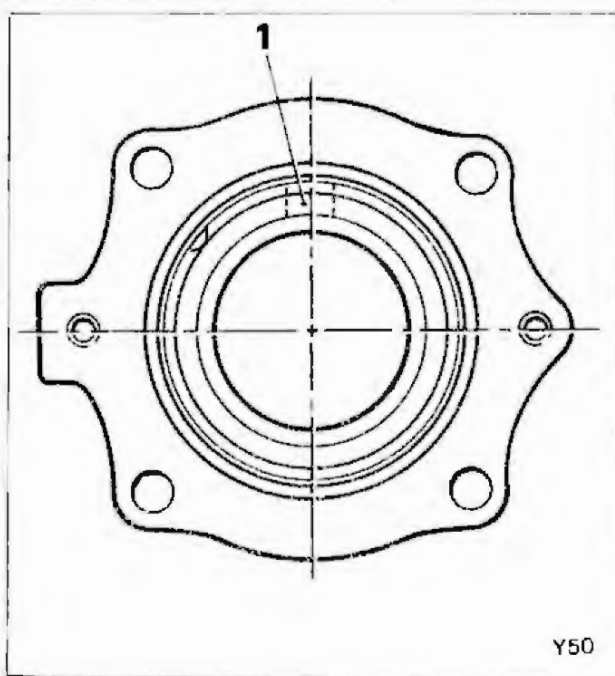

Fig. 3
- 2 Place the pinion housing in a suitable vice with the oil delivery hole vertically uppermost (see fig. 3).